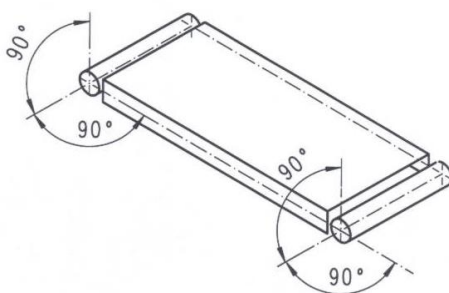

Fig. 9: Roller alignment
- Align the drive and return rollers relative to one another and to the conveyor body (Fig. 9).